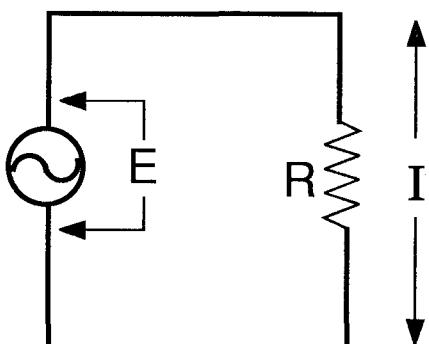

Figure 12-2. A simple AC circuit
For example, in Figure 12-2 an AC voltage  $E_{\text{RMS}}$  from source S is applied across load impedance  $Z$ . Current  $I$  flows through the load. Note that the direction of current flow alternates with the voltage: this is an alternating current (AC) circuit. Suppose that we know  $E$  to be 1 volt RMS, and  $Z$  to be 100 ohms. As above, we can easily find
Since we chose the same voltage and impedance values in Figure 12-2, this calculation also describes that circuit. Since the circuit of Figure 12-2 is an AC circuit and the voltage is given as 1 volt RMS, we call the P term the average power. (The misnomer RMS power is sometimes used, indicating that the power was calculated from the RMS voltage or from the RMS current. Since voltage and current are out-of-phase in an AC circuit, simple multiplication of RMS voltage times RMS current does not yield RMS power.)